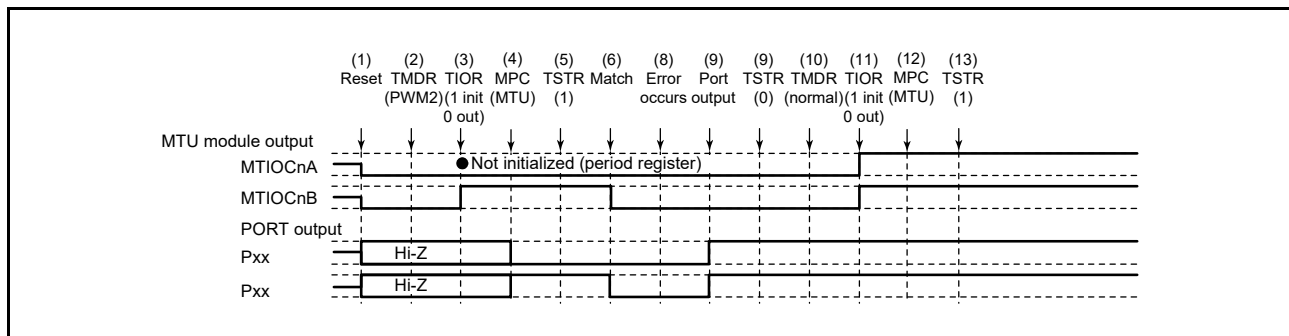

**Figure 19.155 Error Occurrence in PWM Mode 2, Recovery in Normal Mode**
Figure 19.155 shows a case in which an error occurs in PWM mode 2 and operation is restarted in normal mode after re-setting.
(1) to (9) are the same as in Figure 19.155.
(10) Set PWM mode 1.
(11) Initialize the pins with the TIOR register. (In PWM mode 1, waveforms are not output to the MTIOcNB (MTIOcND) pins. To output a specified level, make necessary settings for general output ports in the port direction registers (PDR) and port output data registers (PODR) of the I/O ports.)
(12) Set MTU output using the MPC and port mode registers (PMR) corresponding to the I/O ports.
(13) Restart operation by setting the TSTRA register.
(10) This step is not necessary when restarting in PWM mode 2.
(11) Initialize the pins with the TIOR register. (In PWM mode 2, a waveform is not output to the pin that corresponds to the TGR register used as a period register. To output a specified level, make necessary settings for general output ports in the port direction registers (PDR) and port output data registers (PODR) of the I/O ports.)
(13) Restart operation by setting the TSTR register.
(10) Set the phase counting mode.
(11) Initialize the pins with the TIOR register.